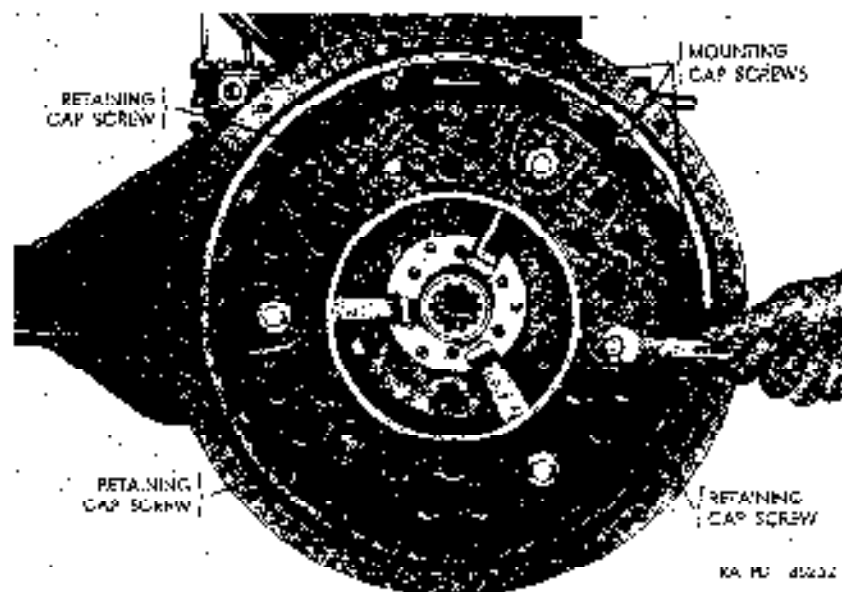

Figure 197. Installing clutch retaining cap screws.
- (1) Remove transmission (par. 205).
- (2) Install three retaining cap screws and washers (fig. 197) in holes pressure plate cover to prevent disassembly of clutch components after removal from flywheel. Turn cap screws down until screwheads and washers contact cover, but do not tighten.
- (3) Remove 12 cap screws and lockwashers (fig. 197) securing clutch pressure plate assembly to flywheel. Lift pressure plate assembly and disk assembly from flywheel.